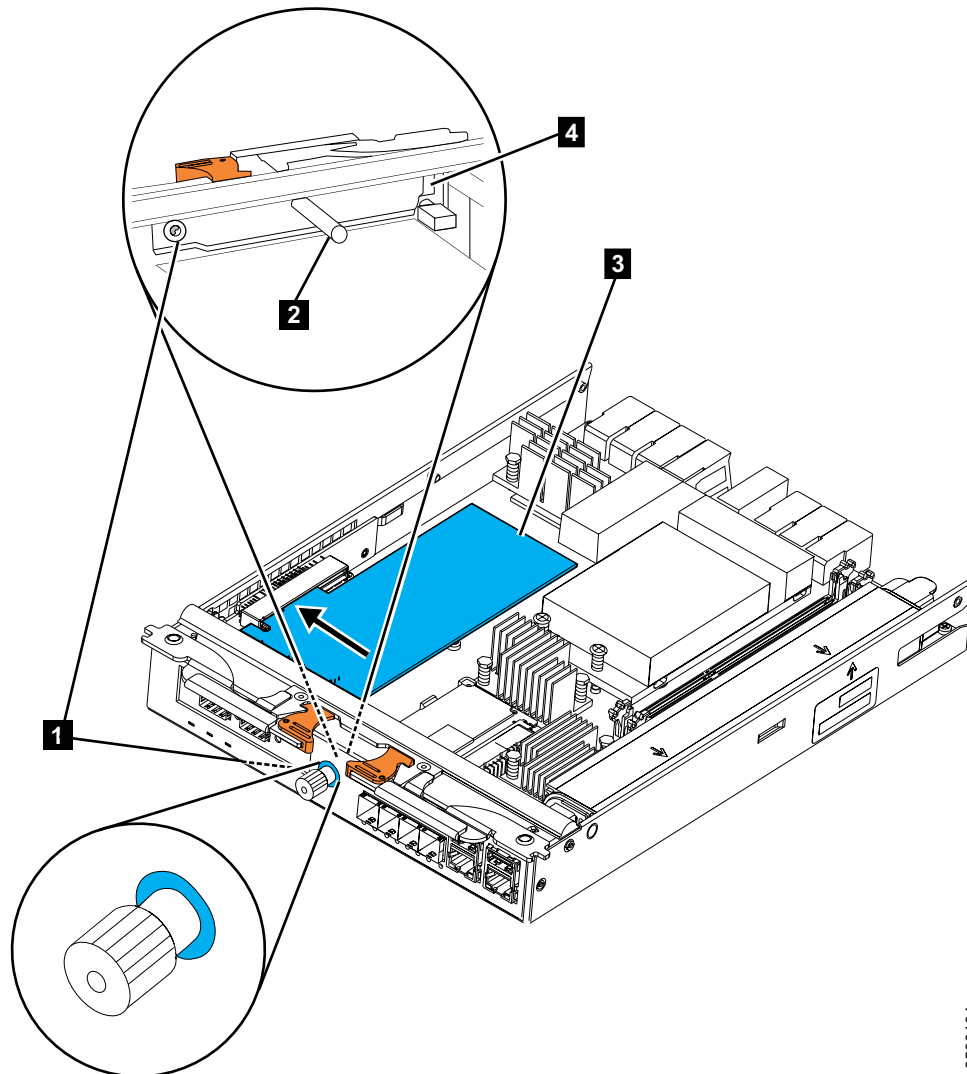

Figure 18. Installing 1 Gbps iSCSI 4-port host interface card
1. Loosen the retaining thumbscrew **1** as shown in Figure 18.
4. Insert the host interface card **3** into the canister as shown in Figure 18 on page 28.